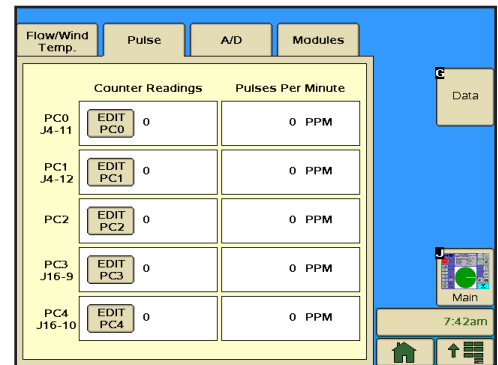

Figure 91-2 1. Pulse Tab
- PULSE - Review electrical pulse counters and rates. Refer to Figure 91-2.